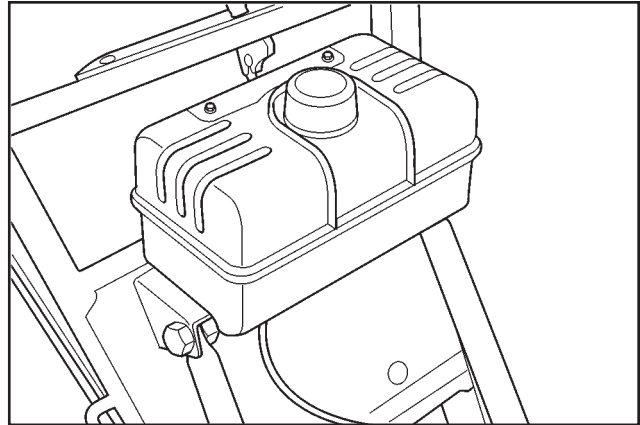

FIGURE 6 Check Fuel Level
1. Remove the fuel tank cap (See Figure 6).